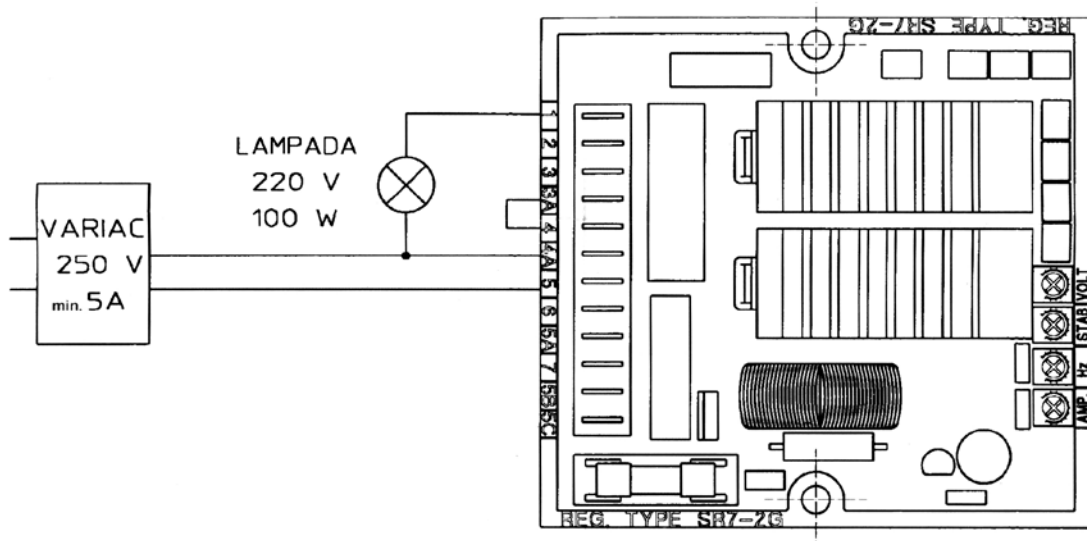

fig. 6
- 1) Prepare the connected regulator as shown in figure 6.